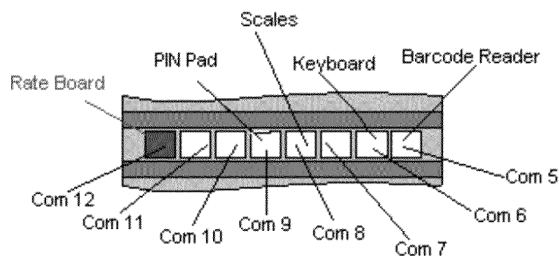

Figure 17
- 2) To connect the Segment 3 cable to the Counter Position, take the segment 3 cable and connect the RJ12 plug to **COM12** on the Specialix card at the rear of the base unit (See figure 17). Ensure that this plug 'clicks' home securely.